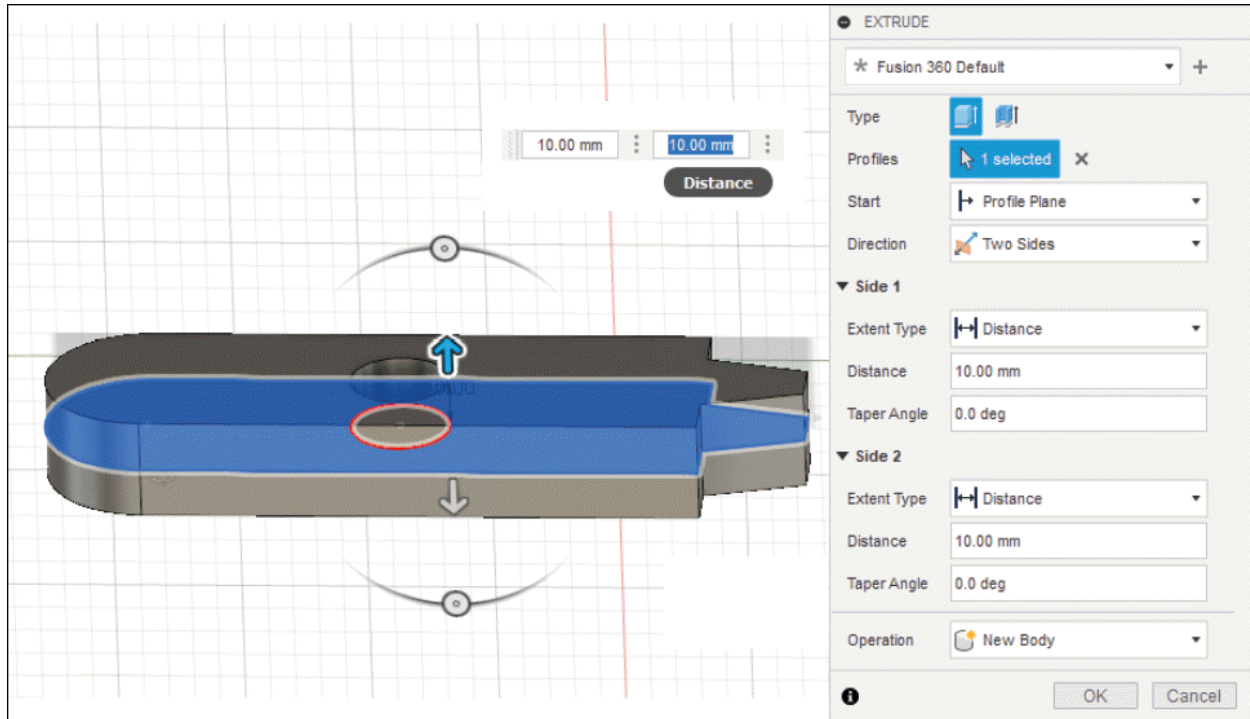

Figure-38. Extrude with two sides
- Select **Two Sides** option from **Direction** drop-down if you want to specify the height of extrusion in both upward and downward directions of sketching plane; refer to Figure-38. The options to specify parameters for side 1 and side 2 will be displayed in the dialog box.